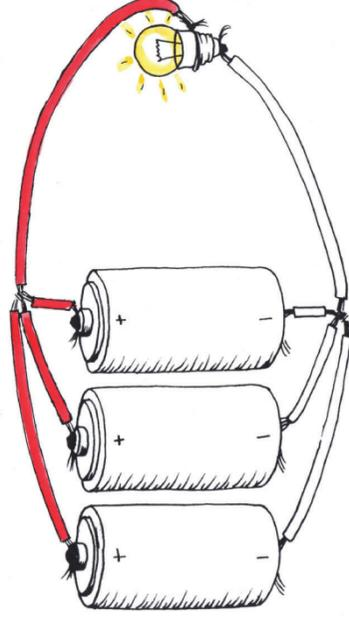
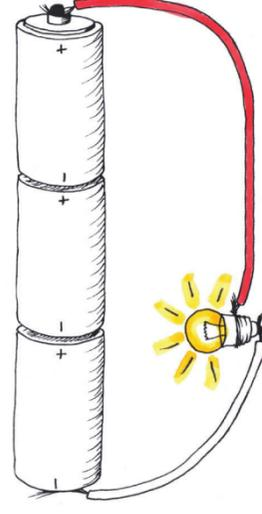

Figure 12: Cells in parallel
Figure 13
- Compare the circuits in Figures 12 and 13. Each circuit has three cells and one light bulb, but the components are connected differently.
The light bulb in Figure 13 will glow the brightest, because the three cells in series give it 4.5 V, whereas the three cells in parallel give only 1.5 V to the light bulb.
The cells in Figure 13 will become “dead” or “flat” quicker, because they give their energy to the light bulb faster (at a greater rate) than the cells in parallel in Figure 12.
Therefore, the light bulb in Figure 12 will glow for the longest time.